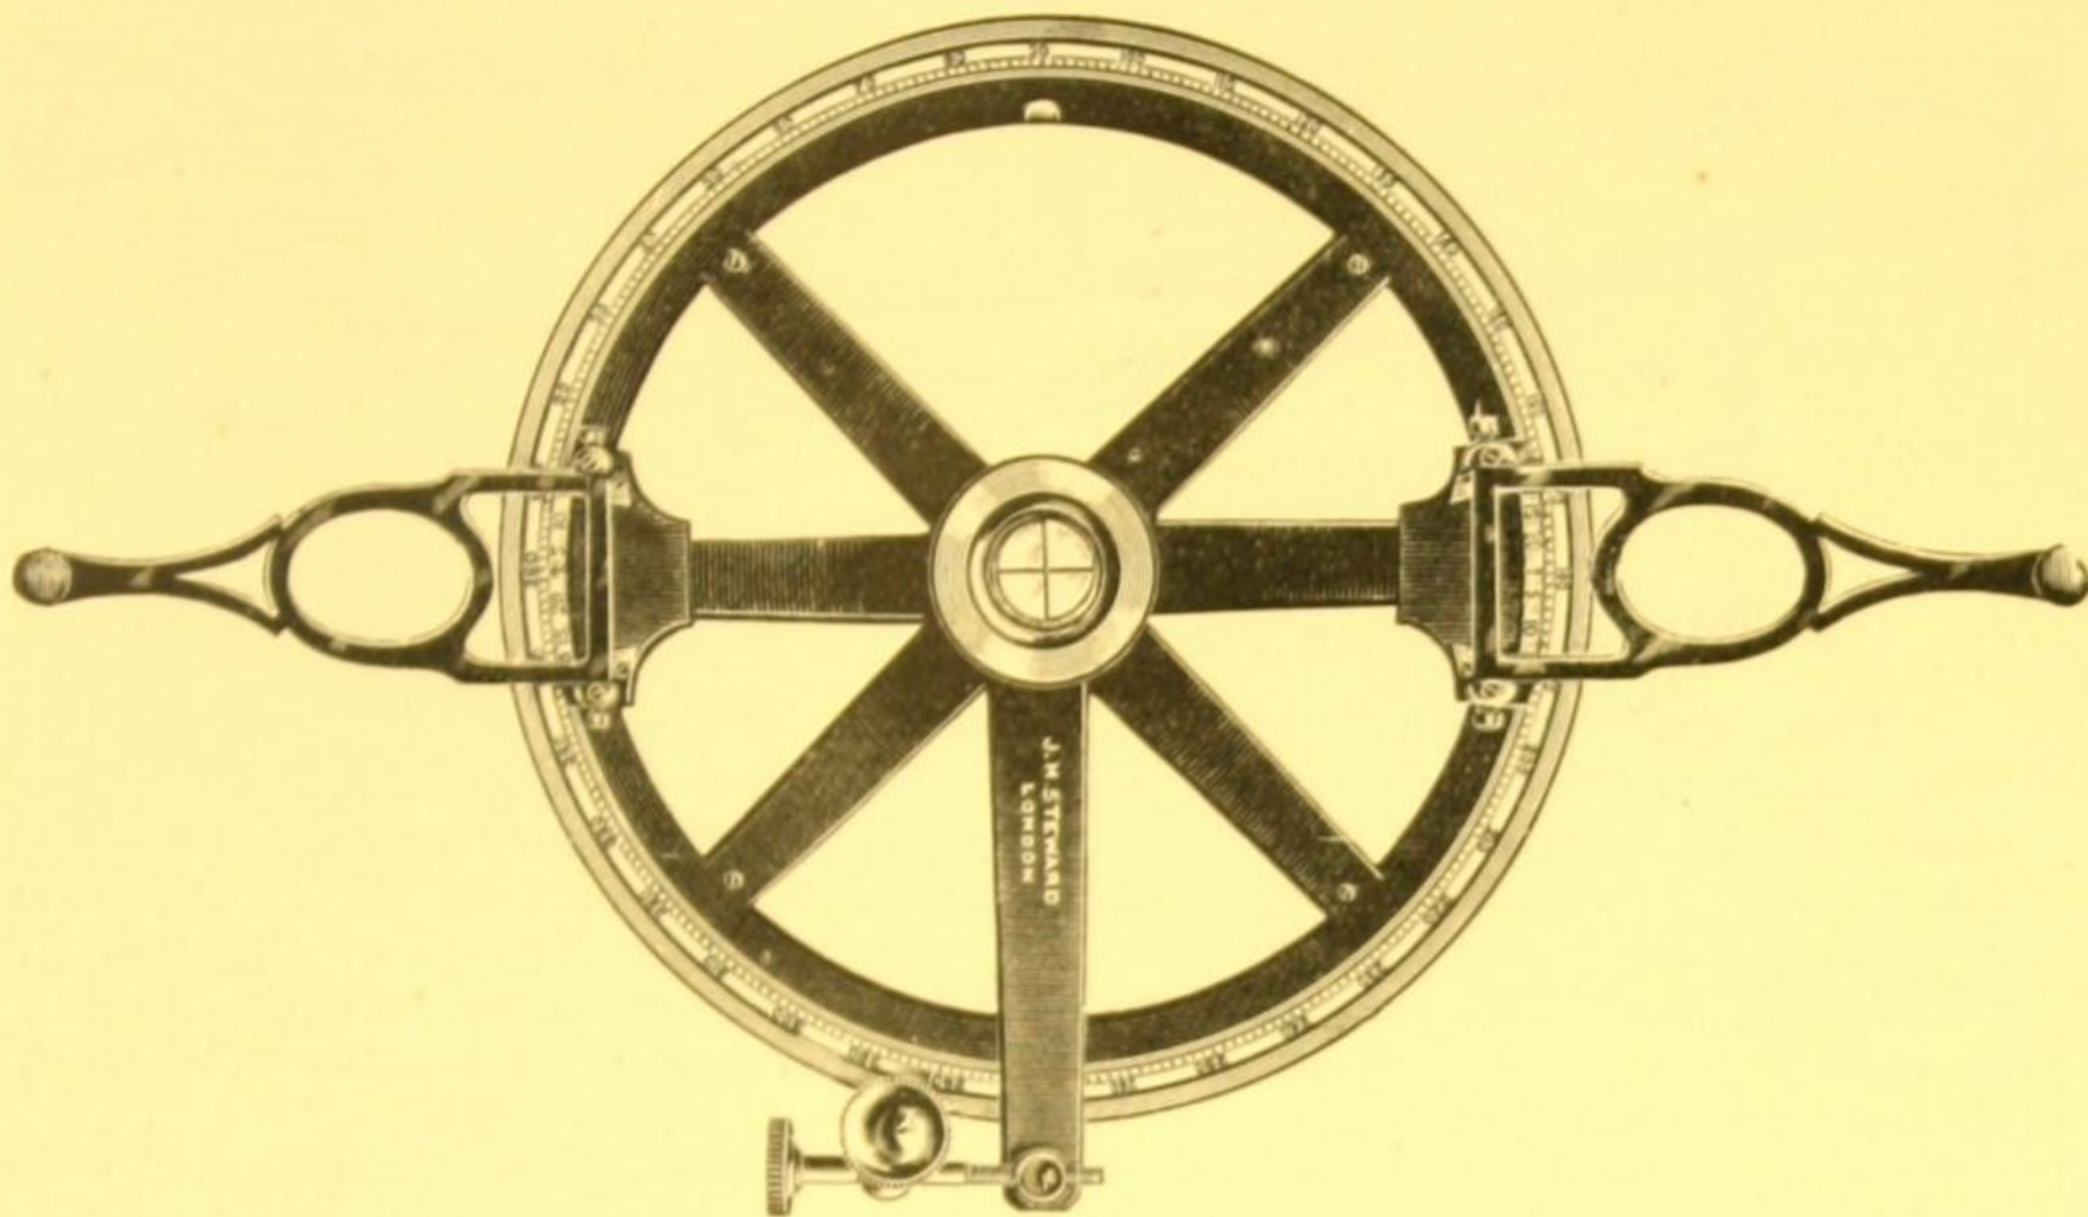

Fig. 153. Circular Protractor with Vernier Arms.
- SM 613.—**6-inch Brass Circular Protractor** with scale engine divided on silver with two verniers reading to 1 minute. Two folding arms with springs to automatically lift points off paper. Tangent screw fine adjustment and clamp. Mahogany box.....Fig. 153   **£9 0 0**